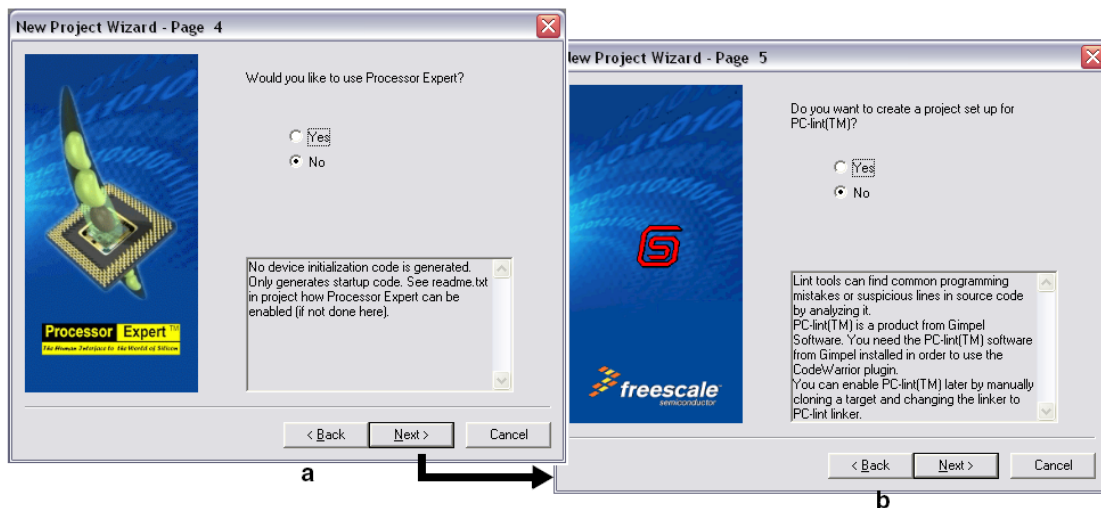

Figure 11. CodeWarrior New Project Wizard Page 4 and Page 5
- h) Click Next — page 4 of the new project wizard will appear (see Figure 11).
- j) Click Next — page 5 of the new project wizard will appear (see Figure 11).